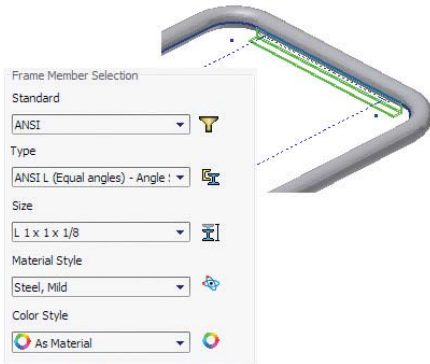

Figure 9, The first mount member is previewed.
9. Set up the Frame Member selection dialog, select the segment as shown in Figure 9 below, and click apply to create the first mount. Repeat at the other end for the second mount.